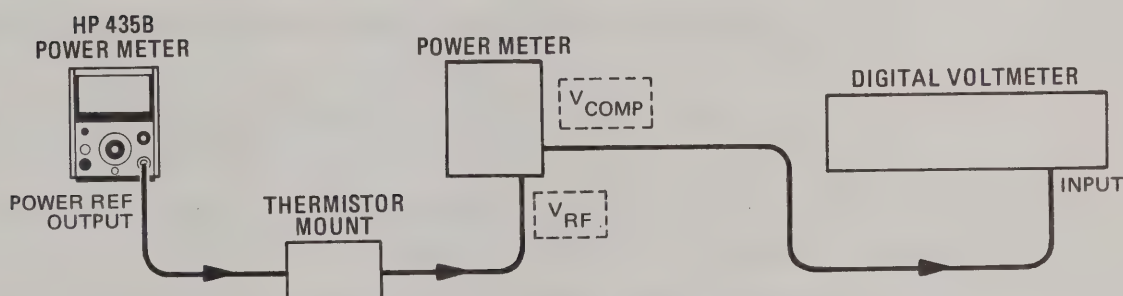

Figure 5-1. Power Reference Oscillator Level Adjustment Setup
2. Round off the DVM indication to two decimal places and record this value as the internal bridge resistance (R) of the 432A (approximately 200 ohms).
3. Connect the 432A to the Power Meter as shown in Figure 5-1.